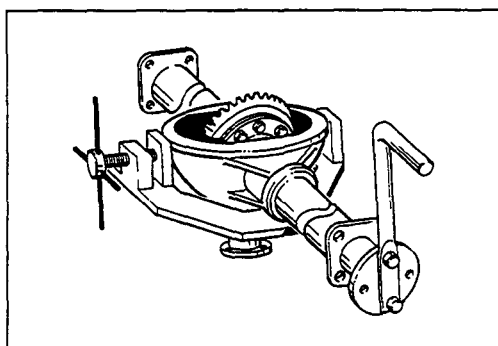

Figure 9
4. Enter the shaft approximately 2 mm into the differential case, with the drilled hole correctly aligned (see Fig. 9 on page 7). Locate a pinion thrust shim and pinion gear on the shaft and hold it in position while tapping the shaft deeper into the case. Leave just enough of a gap to place the second pinion gear and washer in position. Care must be taken that as the pinion shaft is driven into position that the spherical washer is not damaged.